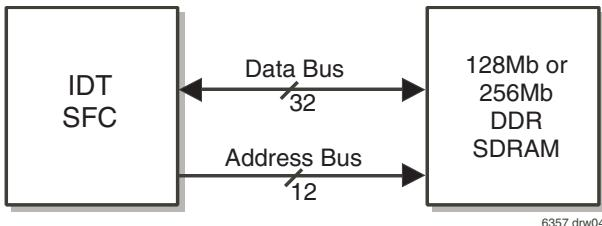

Figure 2a. Configuration 1 - Two Chip Solution
2. See Figure 2a-2g for the 7 different configurations referenced in the table above.
Below are the various chipset solution configurations available to the sequential flow-control device (see Figure 2a-2g). The external memory interface is designed to seamlessly connect one or more DDR SDRAMs. The output signal names should be connected directly to its corresponding input signal on the DDR SDRAM. There are three signals on the DDR SDRAM that must be tied to a static state: CKE, CS, and DM. Table 4 outlines how to connect the many interface pins to the DDR SDRAM(s). Figure 3 and 4 are some examples of the memory interface connections for various density configurations. For information on DDR SDRAM layout recommendations, please see IDT application note AN-423.